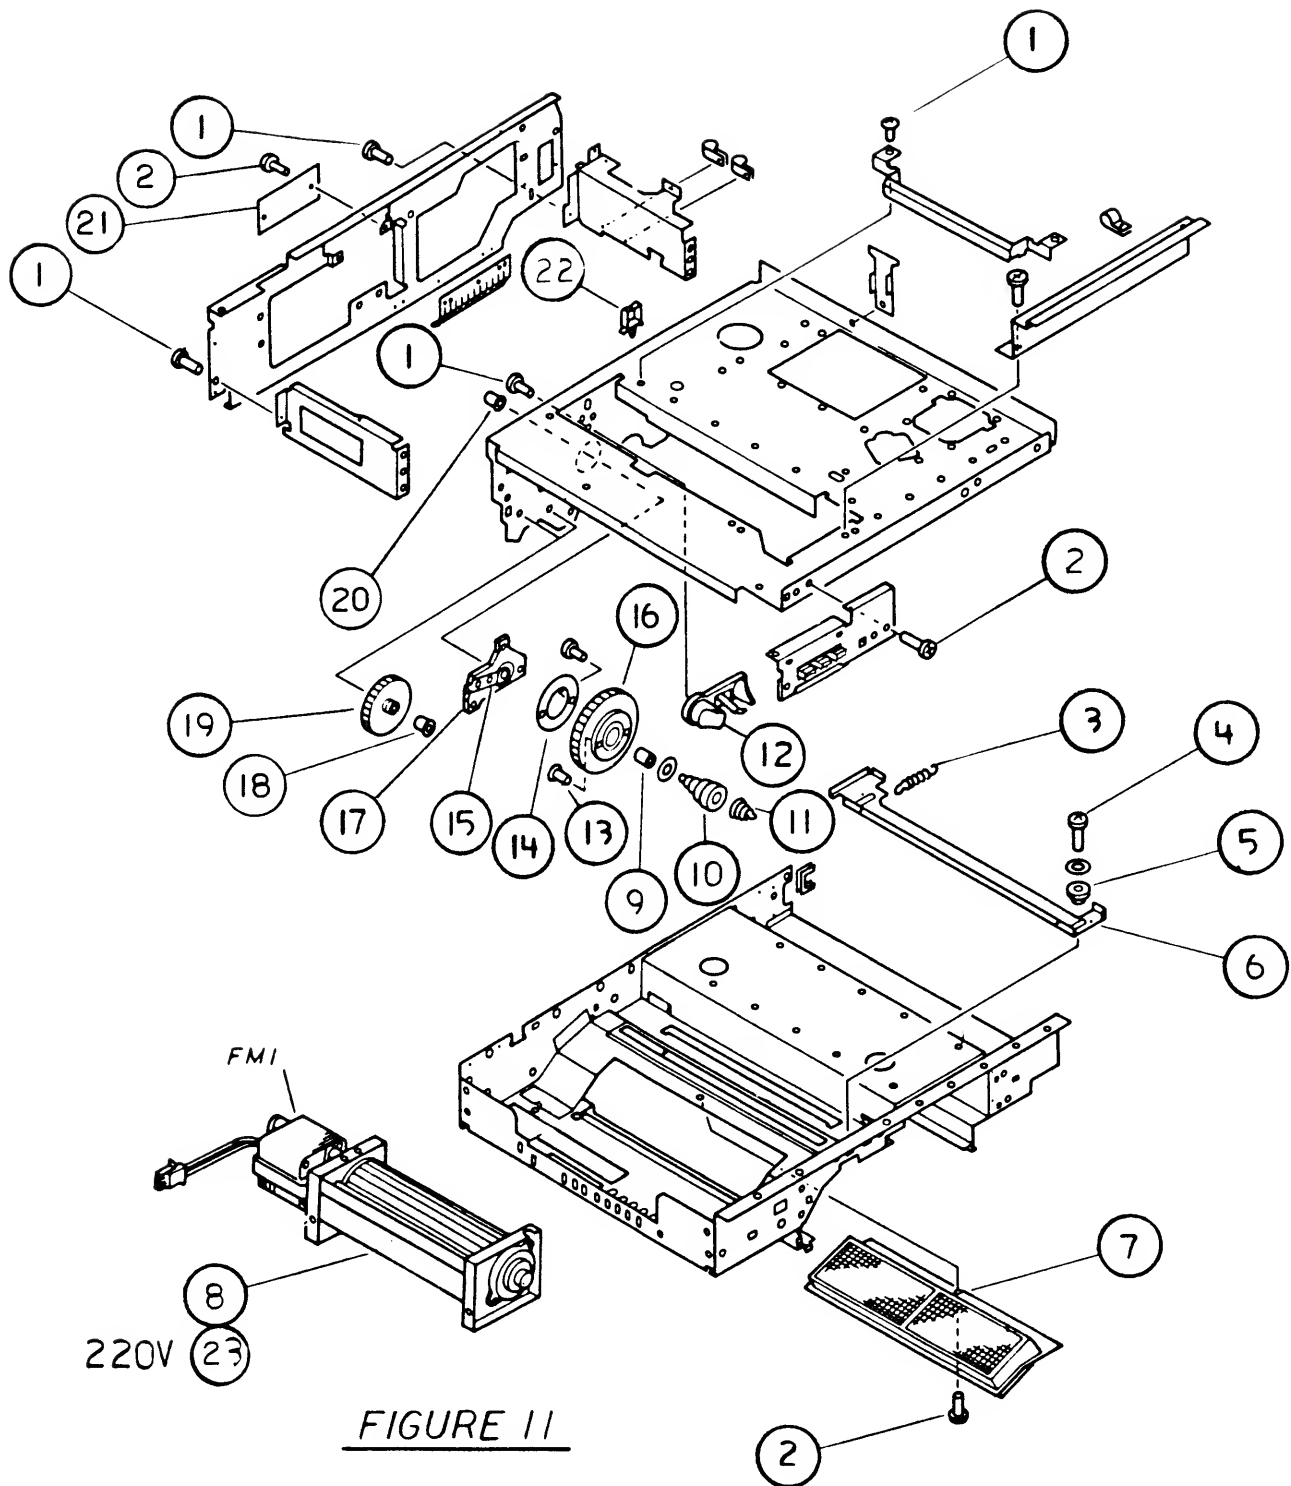

FIGURE 11
□ LASERWRITER – UPPER MAIN BODY (1 of 2) (Figure 11)